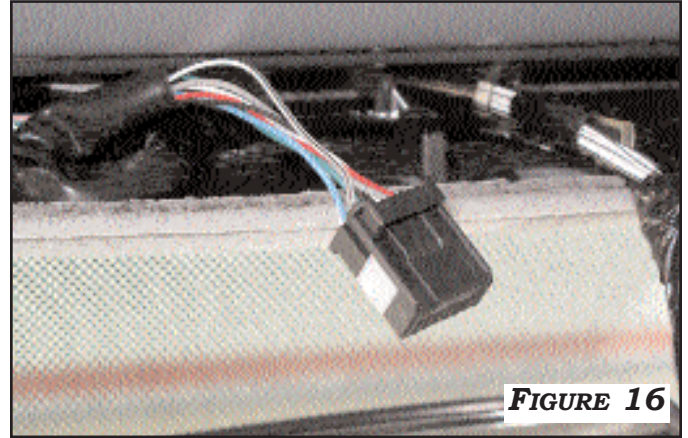

FIGURE 16
1. MOUNT REARSIGHT MIRROR ON EXISTING WINDSHIELD LUG AND TIGHTEN THE TORX SCREW. LOCATE THE BLACK 14-PIN CONNECTOR ABOVE THE HEADLINER AND PULL IT FROM THE HOLDING CLIP. **FIGURE 16**